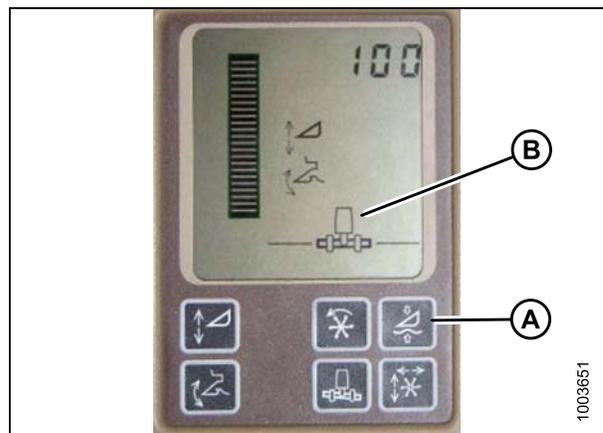

Figure 4.112: Combine Display
Do NOT use the active header float function (A) in combination with the MacDon Auto Header Height Control – the two systems will counteract one another. The header symbol (B) on the display should NOT have a wavy line under it and should appear exactly as shown on the Active Header Control Display in Figure 4.112: